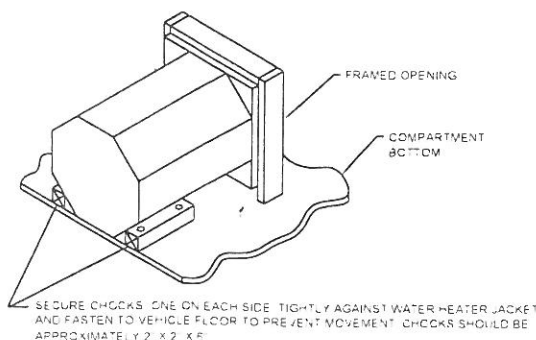

Figure 1A
H. Install checks, one on each side of water heater, as illustrated in Figure 1A.